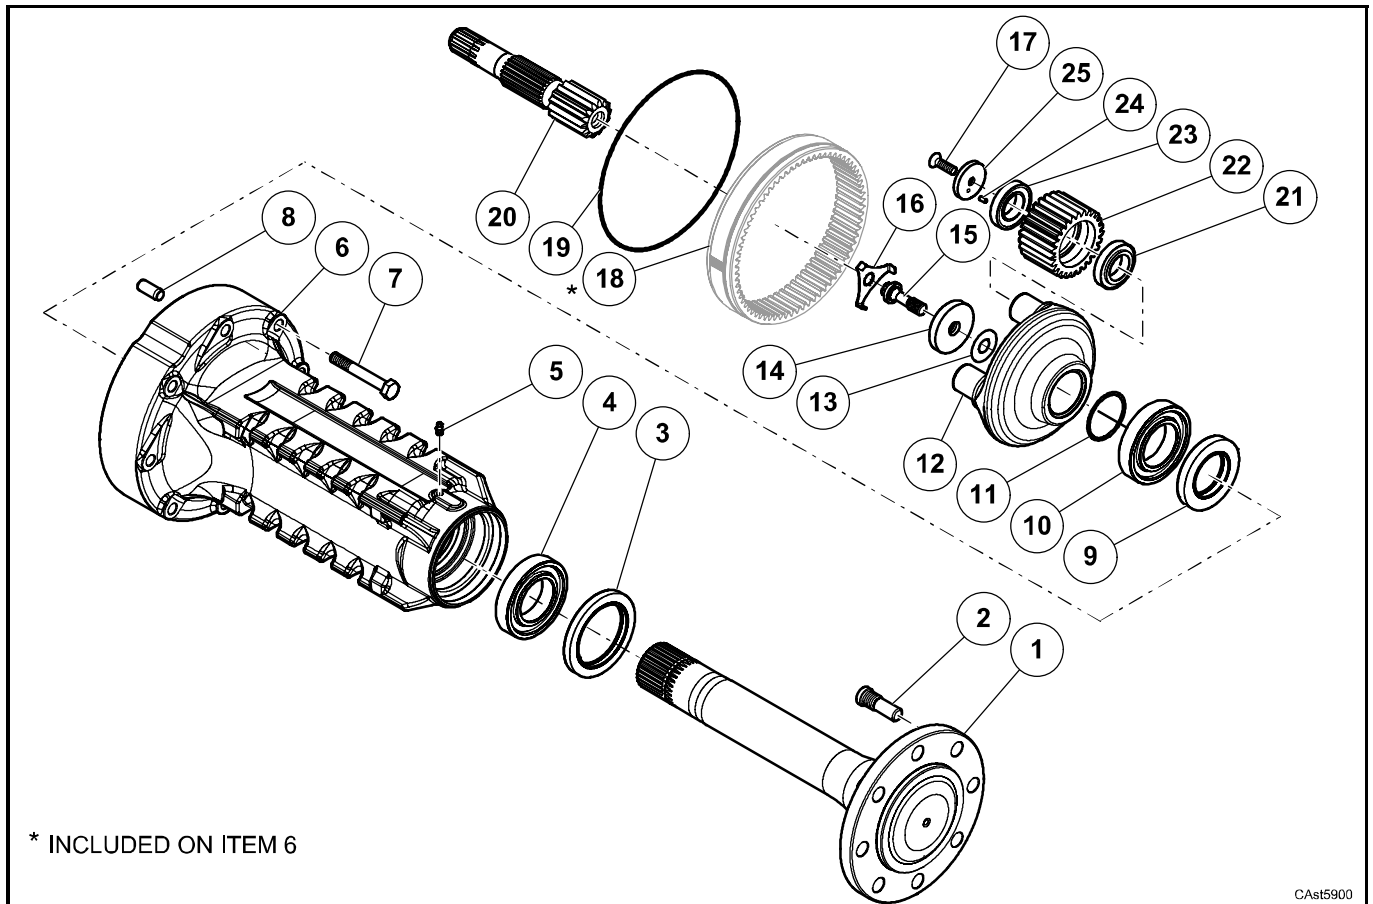

**fig. 18**
16. Assemble the greaser (5).
**See:** fig.18